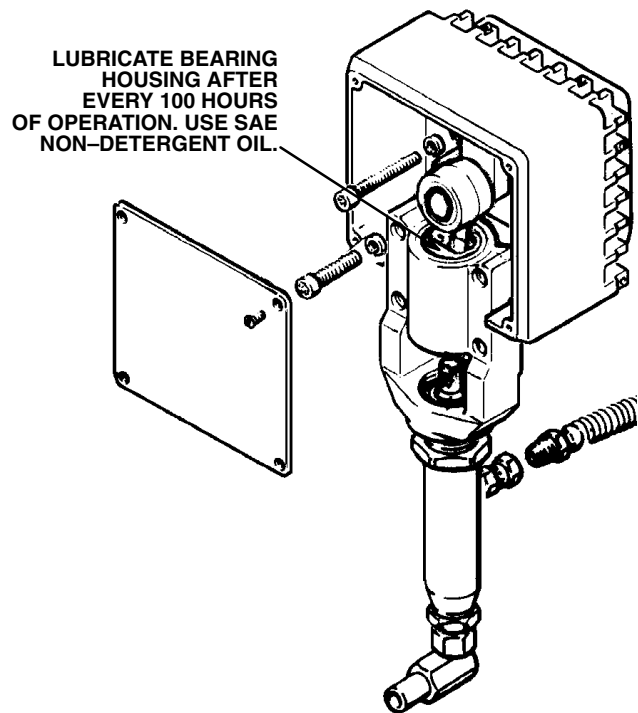

Fig 14-2
3. **Lubricate the bearing housing** after every 100 hours of operation. Remove the cover of the bearing housing. Fill the bearing housing cavity with SAE non-detergent oil. See Fig 14-2.